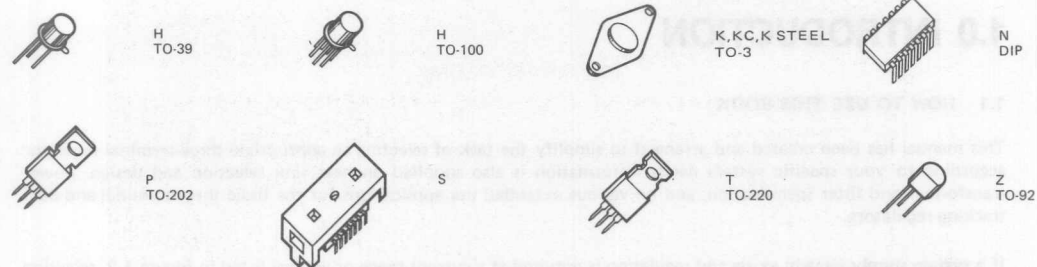

FIGURE 1.2. Available Regulator Packages
**For voltage regulation at other than the voltages listed in Figure 1.2**, refer to the applications section, or consider an adjustable regulator such as the LM105, LM723, LM117, etc. Refer to the data sheets on these parts and to the National Semiconductor Linear Applications Handbook. Section 1.4 compares the features and applications of three-terminal and adjustable regulators.